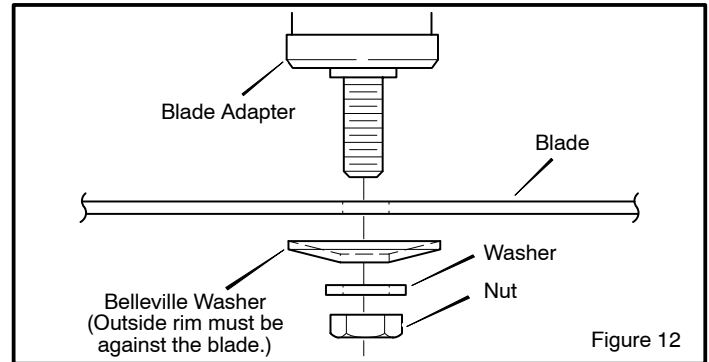

Figure 12
8. Fasten the **blade** with the original washers and **nut**. Make sure the outside rim of the **Belleville washer** is against the **blade** (Figure 12).